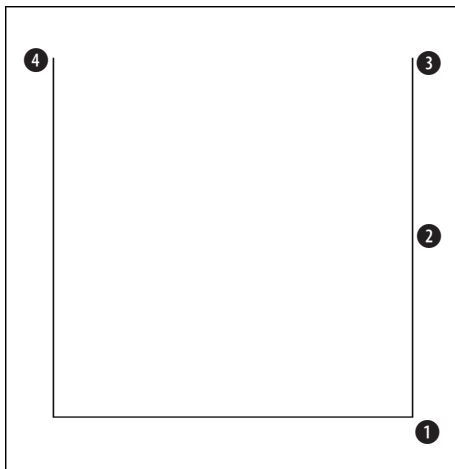

Figure 4-20: These three lines are the start of a mounting bracket.
Your drawing should look like Figure 4-20. The circled numbers are reference points for this exercise.
_endpt of Move the cursor to ❶ in Figure 4-20. When you see the endpoint marker and AutoSnap tooltip, pick it.